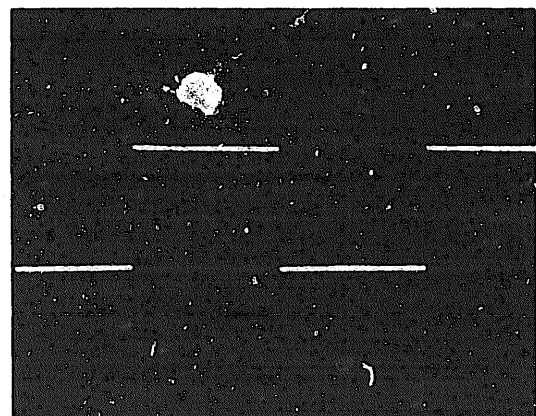

Figure 4-19 Slave Output
3. Connect the Transmitter IF OUTPUT to the Receiver IF INPUT (D) and adjust the IF ATTENUATOR (25) for an on-scale meter reading.
4. Set the MARKERS switch (19) to SLIDING and the BLANKING (30) to OFF. Adjust the X-PHASE SHIFT control (3) to superimpose the markers on the forward and return traces. Set the BLANKING (30) to ON.
5. Set the Y1 Y2 CALIBRATION switch (15) to 1dB and adjust the Y1 GAIN (8) for a 1cm split trace display.
7. Check for a square wave of 500mV ±10mV pk-pk with markers added as in Figure 4-19.
8. Set the Y1 GAIN (8) counterclockwise and adjust the Y2 GAIN (7) for a split trace of 1 cm.
9. Set the SLAVE switch (rear panel) to Y2 and check for a square wave of 50mV ±10mV pk-pk with markers added as in Figure 4-19.